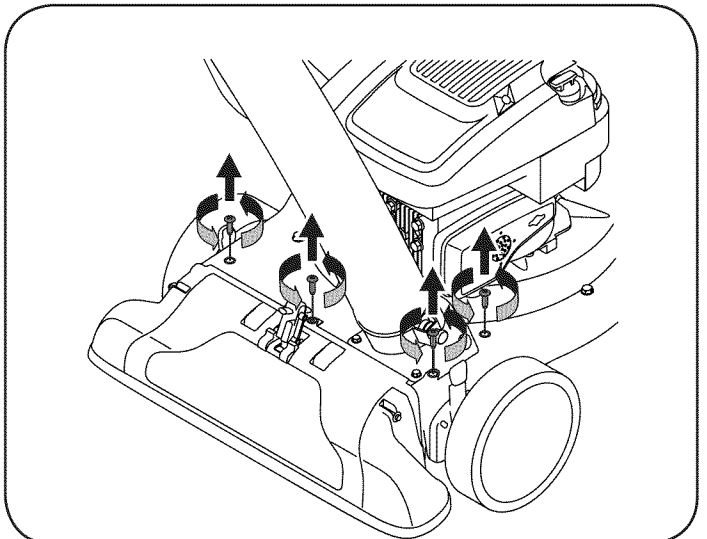

Figure 25
6. Remove the four screws on the upper housing that secure the nozzle cover. See Figure 25.